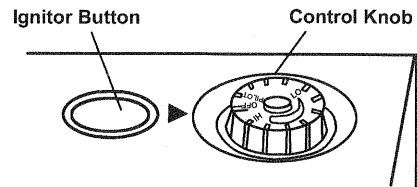

Figure 19 - Control Knob In The OFF Position
4. Wait five(5) minutes to clear out any gas. Then smell for gas, including near the floor. If you smell gas, STOP! Follow "B" in the safety information on the side of heater. If you don't smell gas, go to the next step.
5. Turn control knob counterclockwise ↺ to the PILOT position. Press in control knob for five(5) seconds. (see Figure 19).